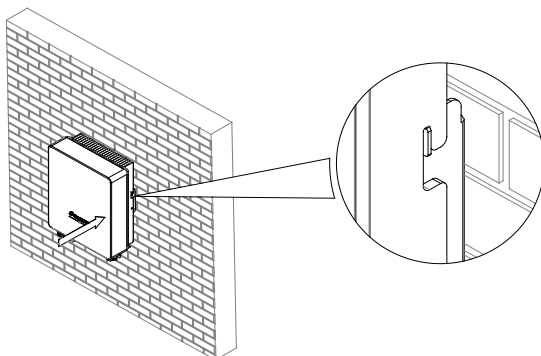

FIG. 6-9 Hang the Inverter on Wall-mounting Bracket
- 1) Hang the inverter on wall-mounting bracket. Keep balance during the operation to prevent device damage from colliding with walls or obstacles, as per FIG. 6-9.